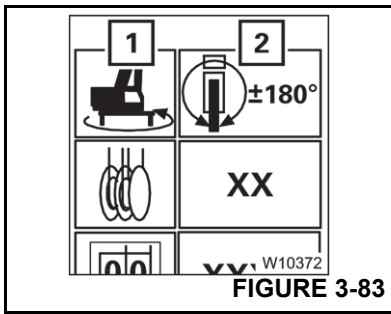

FIGURE 3-83
Symbol (1) (Figure 3-83) is green. Press the buttons repeatedly until the display (2) indicates the required swing range, e.g. 360°.